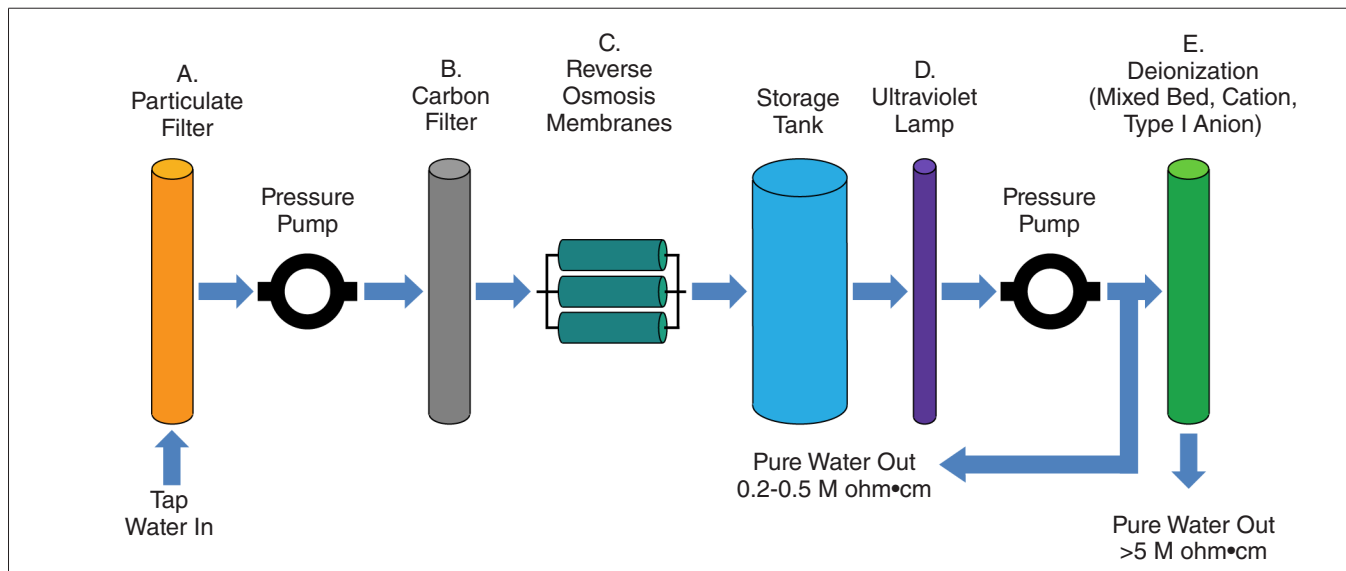

Figure 5.4j: Reverse Osmosis / Deionized water system.
- The reverse osmosis / deionized (RO/DI) water system shown in Figure 5.4j produces water pure enough for spray systems.
- Figure 5.4j below shows an effective Reverse Osmosis / Deionized Water System with Anion Type I Resin for spray water silica removal.